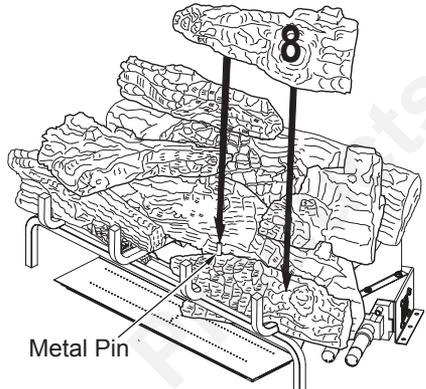

Figure 51 - Installing Log # 8
8. Place the front right mid log (#8) on top of the front right log (#4) as shown in Figure 51. Match the round metal pin on the top of the front right log (#4) with the round hole on the bottom of the front right mid log (#8).